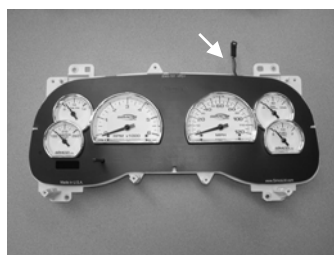

Figure 7
- Carefully place the new Instrument Cluster module into the circuit board & housing assembly. Make sure to keep the lamp connector outside of the housing. (See figure 7) The Gauge Pins must be aligned with the holes in the circuit board or the module will not fit.